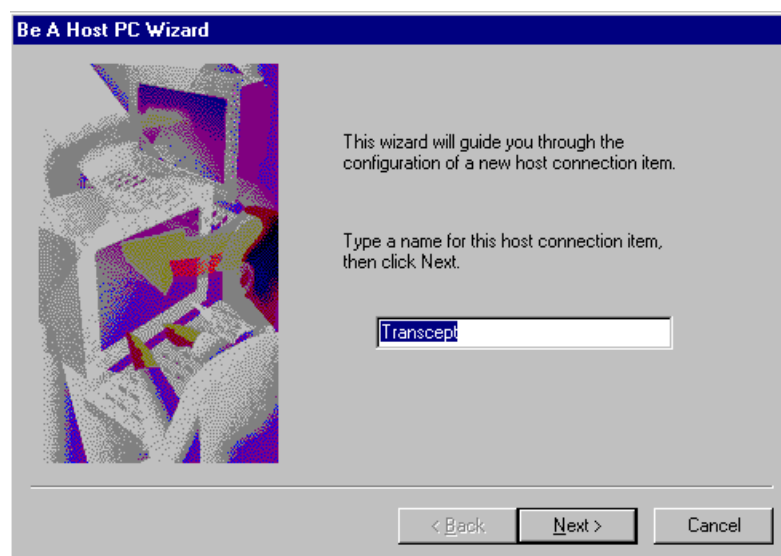

Figure 5-2. Naming the Host PC Session
- c. Double-click on the “Add Be A Host PC Item”. A series of GUIs will appear to walk you through the Add process. Figure 5-2 shows the first of these GUIs. Enter the name of the session. This example names the session “Transcept”. This name will appear beneath a new PC icon in the “Be a Host PC” GUI when you are done with the Add process.